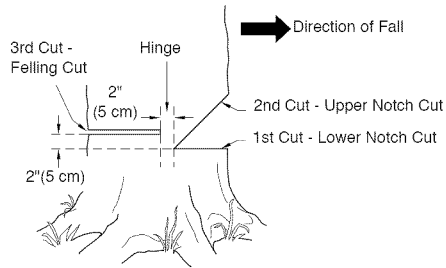

Figure 12 - Felling A Tree
A properly placed felling notch will determine direction tree will fall. Place felling notch on side of tree in direction you want tree to fall (see Figure 12). Follow directions below to create a felling notch.
1. Make lower notch cut as close to ground as possible. Hold saw so guide bar is horizontal. Cut 1/3 the diameter of tree trunk (see Figure 12). **Note:** Always make this horizontal lower notch cut first. If you make this cut second, tree can pinch chain or guide bar.
2. Start upper notch cut the same distance above first cut as first cut is deep. **Example:** If lower notch cut is eight inches deep, start upper notch cut eight inches above it. Cut downward at 45° angle. The upper notch cut should meet end of lower notch cut (see Figure 12).
1. Make felling cut two inches higher than lower notch cut and on opposite side of tree (see Figure 12). Keep felling cut parallel to lower notch cut.
WARNING: Do not cut all the way through tree. Leave about two inches of tree diameter uncut directly behind felling notch (see Figure 12). This uncut portion acts as a hinge. The hinge helps keep tree from twisting and falling in wrong direction.